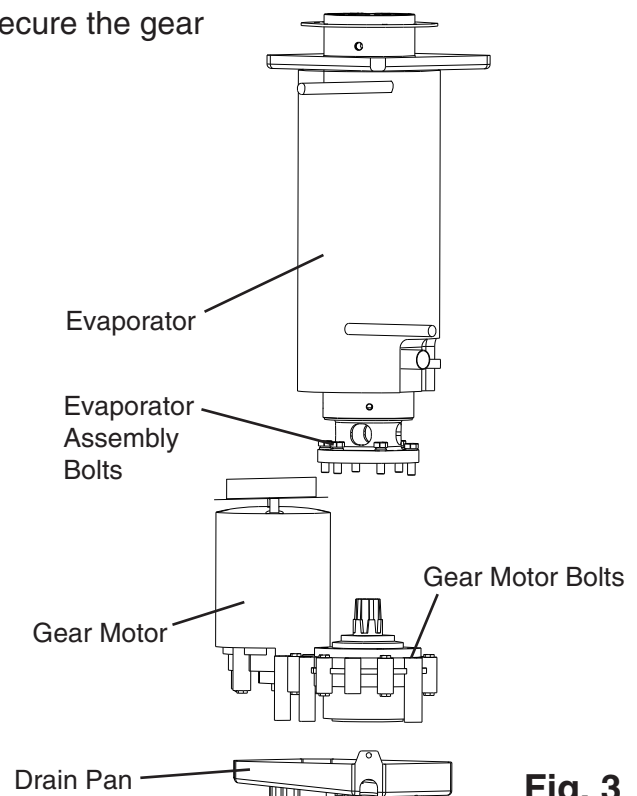

Fig. 3
- 6) Remove the evaporator assembly bolts securing the evaporator assembly to the gear motor. Lift the evaporator assembly up slightly. See Fig. 3.